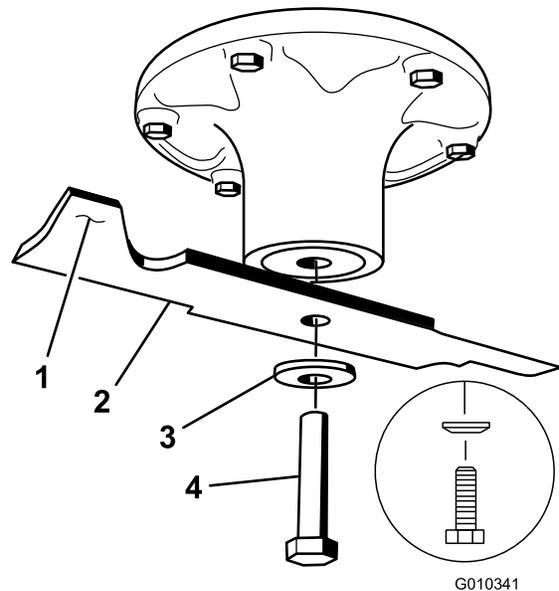

Figure 70
2. Remove the blade bolt, curved washer, and blade from the spindle shaft (Figure 70).